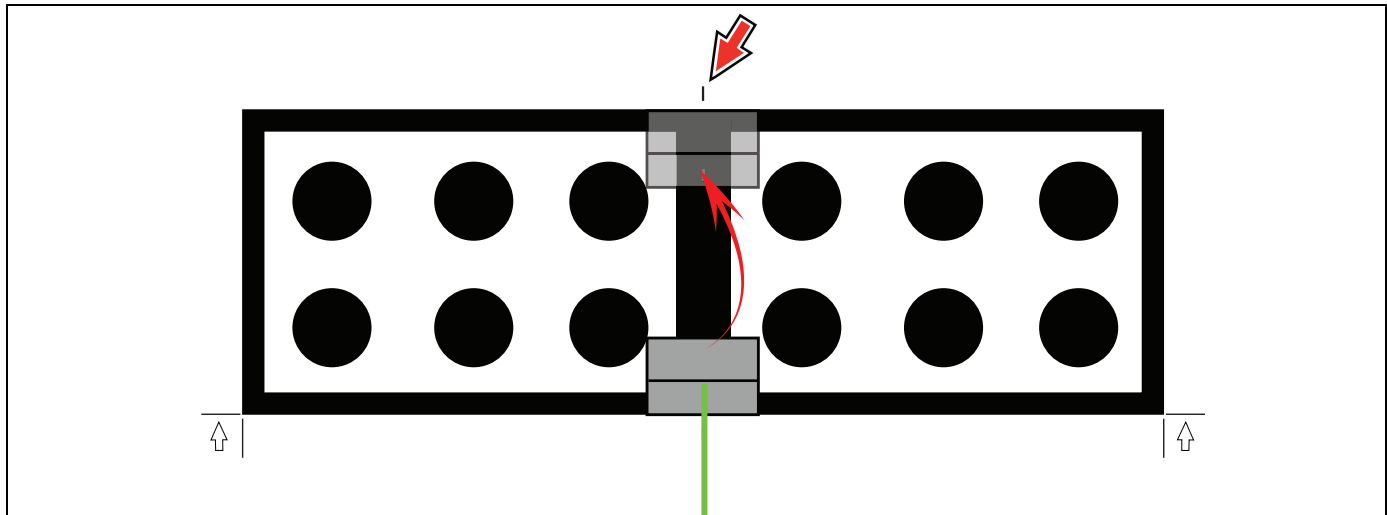

Figure 5-8
- If needed, use the AS11 alignment plate as an alignment tool to assist in lining up the target centerline with the laser from the AS20 fixture (vehicle centerline) (Figure 5-8).